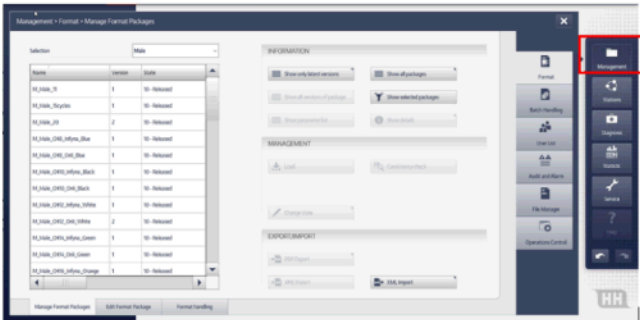

Figure 8
1. Press the management button on the HMI to change the machine recipe. (Figure 8)